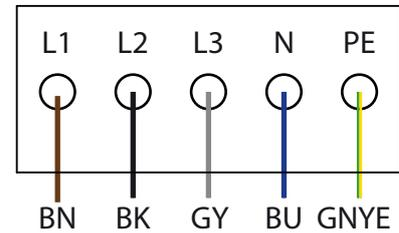

Fig. 8: AC connection terminals
- 5. Connect the leads according to the labelling of the PCB terminals (figure 8 on page 21).